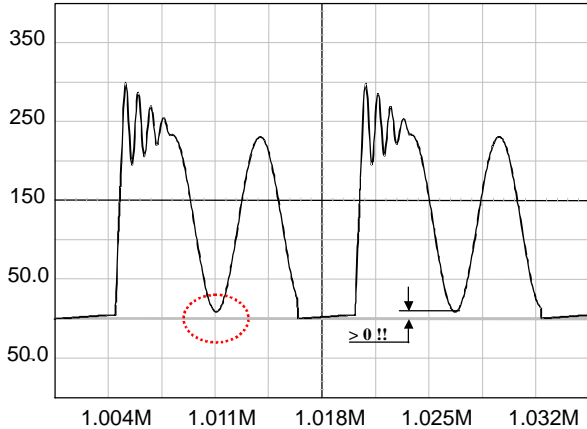

Figure 42. The reflected voltage shall always be greater than the minimum input voltage to avoid the forward biasing of the MOSFET body-diode.
1. The lateral MOSFET body-diode shall never be forward biased, either during startup (because of a large leakage inductance) or in normal operation as shown by Figure 42. This condition sets the maximum voltage that can be reflected during t_{off} .